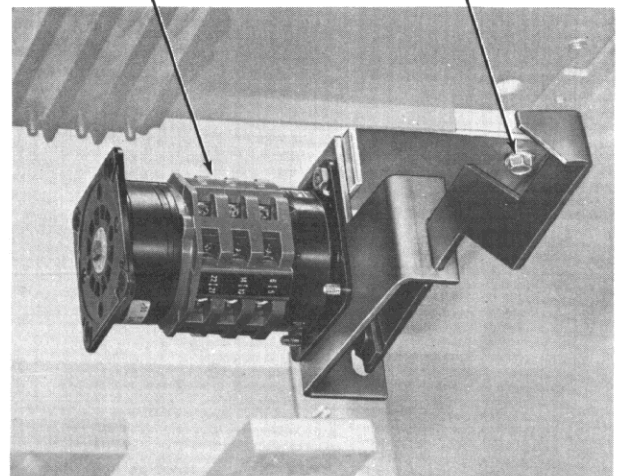

Figure 15 View of right rear of compartment
Kit consists of the switch assembly, (2) $\frac{1}{4}$ -20 \times $\frac{1}{2}$ " long thread forming screws, wire ties, and a grommet for one of the $1\frac{1}{4}$ " dia. wiring access holes. Attach the unit as shown in Figure 15.